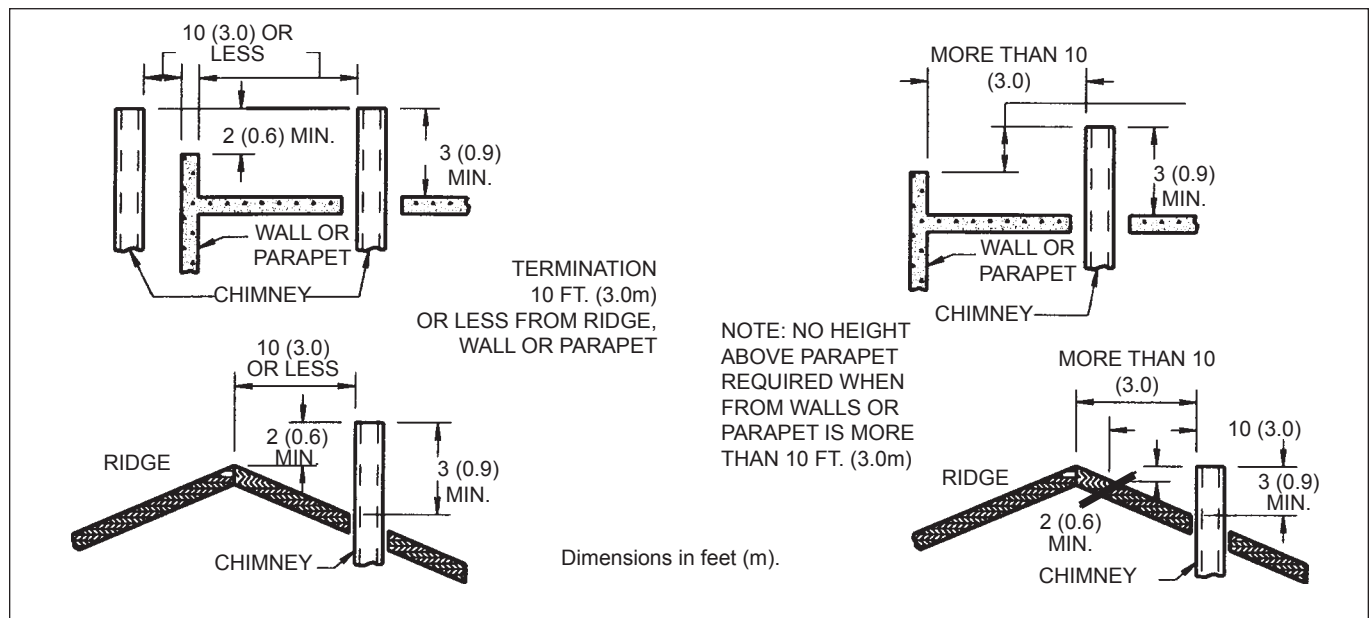

Figure 5. Vertical Vent Termination.
1. Attach a vertical pipe at least 12" (305mm) high to the boiler outlet before the horizontal run if run exceeds 5 feet (**see Figure 5**).